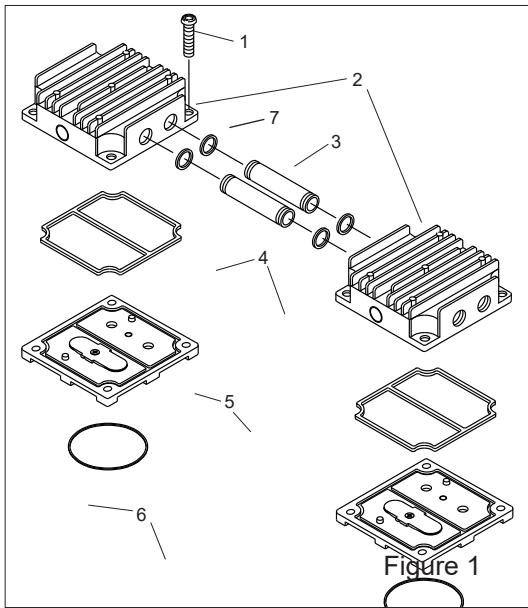

Figure 1
STEP 3. Assemble connector tubes into both heads as shown in Figure 1.